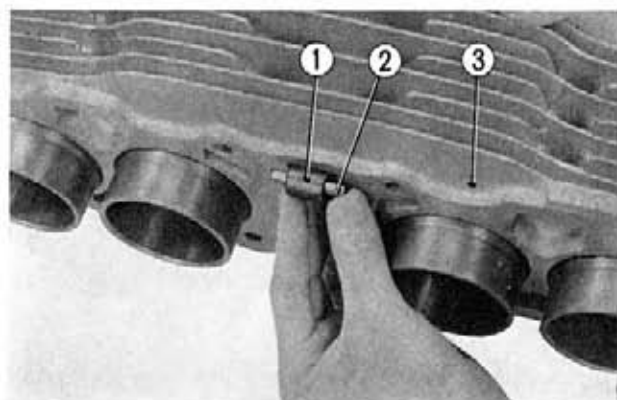

Fig. 3-29 ① Cam chain guide ② Cam chain guide pin ③ Cylinder
12. Remove the cam chain guide pin from the bottom of the cylinder and remove the cam chain guide from the cylinder. (Fig. 3-29)